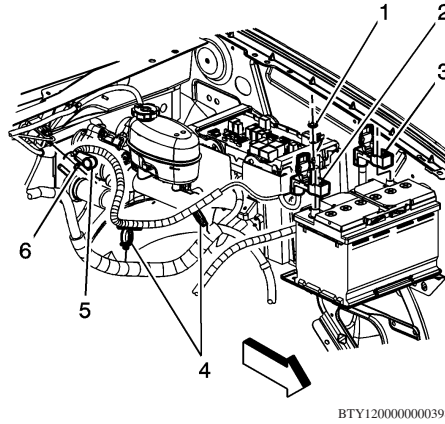

Fig. 4 Auxiliary battery cable disconnection
7. Loosen auxiliary battery ground cable nut (3), **Fig. 4**.
10. Loosen auxiliary battery positive cable nut (2), **Fig. 4**.
5. **Torque** auxiliary battery positive cable nut (2) to 66 inch lbs., **Fig. 4**.
8. **Torque** auxiliary battery ground cable nut (3) to 66 inch lbs., **Fig. 4**.